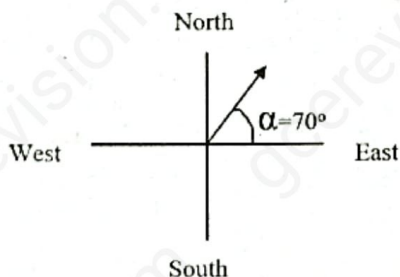

Figure 3
18. Based on Figure 3 below, identify the correct writing of the line OA.